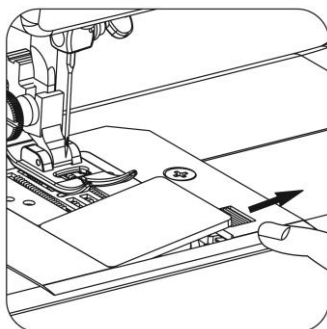

Fig.9
- 1) Slide the release button besides the bobbin cover to the right and remove the bobbin cover (Fig.9).